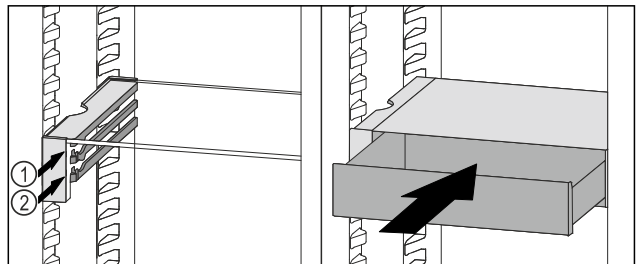

Fig. 122
- Place the VarioSafe drawer behind the stoppers on desired rib Fig. 122 (1) or Fig. 122 (2).